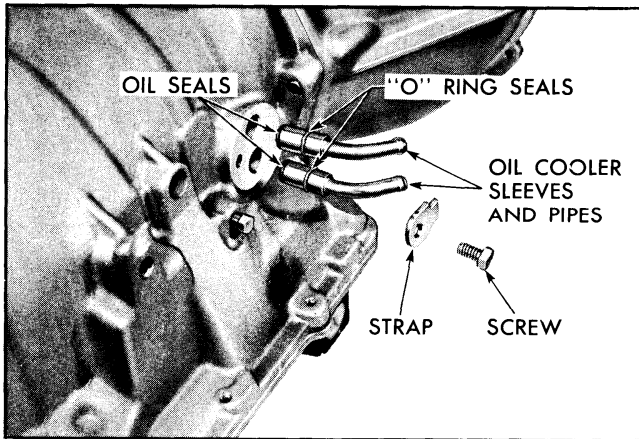

Fig. 7D-45 Oil Cooler Sleeve and Seals
1. Remove oil cooler strap attaching bolt and strap (Fig. 7D-45).